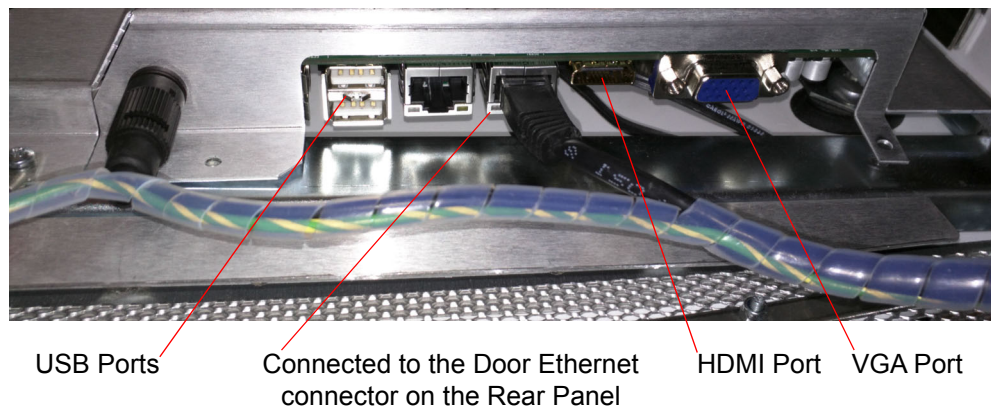

Figure 55 Door PC Ports
If for some reason you can't connect to the Door PC using Microsoft Remote Desktop Connection (see section 8.2) then connect a keyboard, mouse and monitor to the Door PC (see Figure 55).
- There are two versions of Door PC hardware, see Figure 55. Earlier routers have a DVI port and later routers have an HDMI and VGA port. The Door PCs are functionally identical.